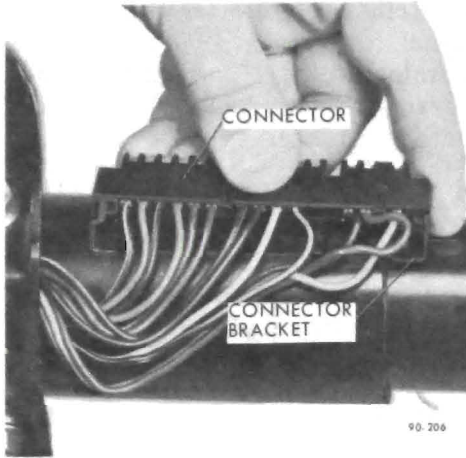

Figure 90-127 - Installing Connector in Column Bracket
12. Drive the three mounting screws. Clip the connector to the bracket on the jacket. See Figure 90-127.